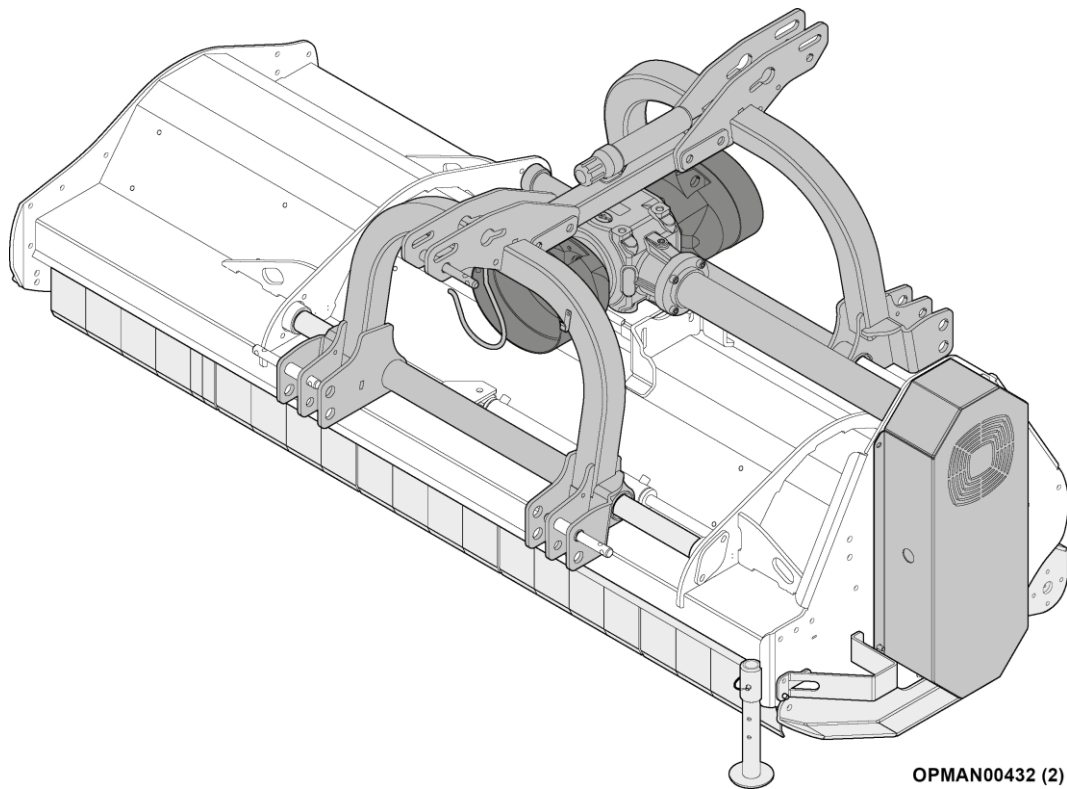

Figure 13
- Use the specific supporting feet in the parking position (Figure 13).